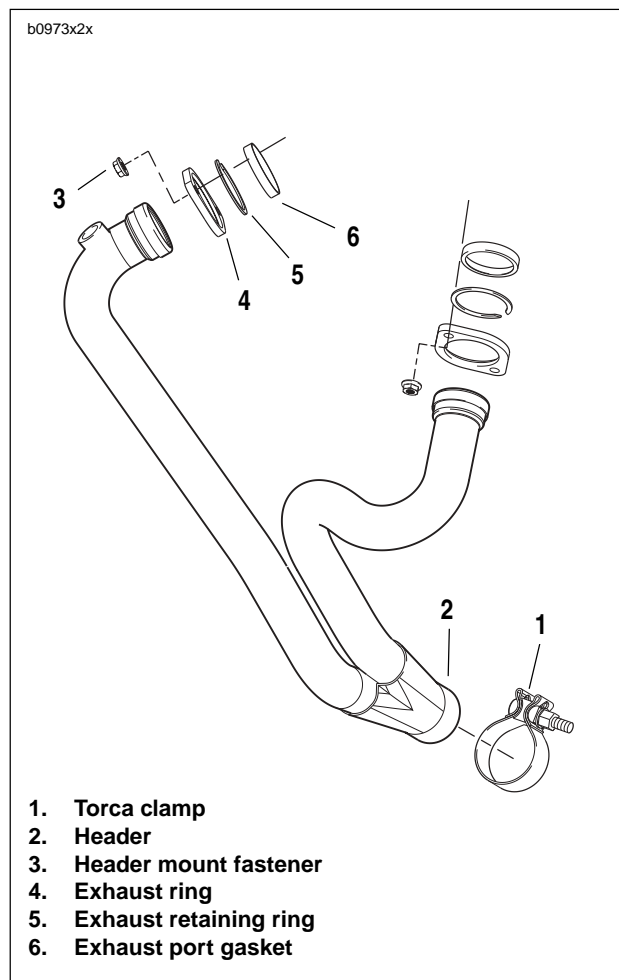

Figure 2-99. Exhaust Header
6. See Figure 2-99. Loosen Torca clamp (1) and remove muffler.
3. See Figure 2-99. Remove exhaust header (2) by removing mounting fasteners (3).
4. Remove exhaust ring (4), retaining ring (5) and port gasket (6).
1. See Figure 2-99. Install exhaust ring (4), retaining ring (5) and **new** port gasket (6).
2. Install exhaust header (2). Tighten mounting fasteners (3) to 72-96 in-lbs (8-11 Nm).
5. See Figure 2-99. Tighten the Torca clamp (1) to 40-45 ft-lbs (54-61 Nm).